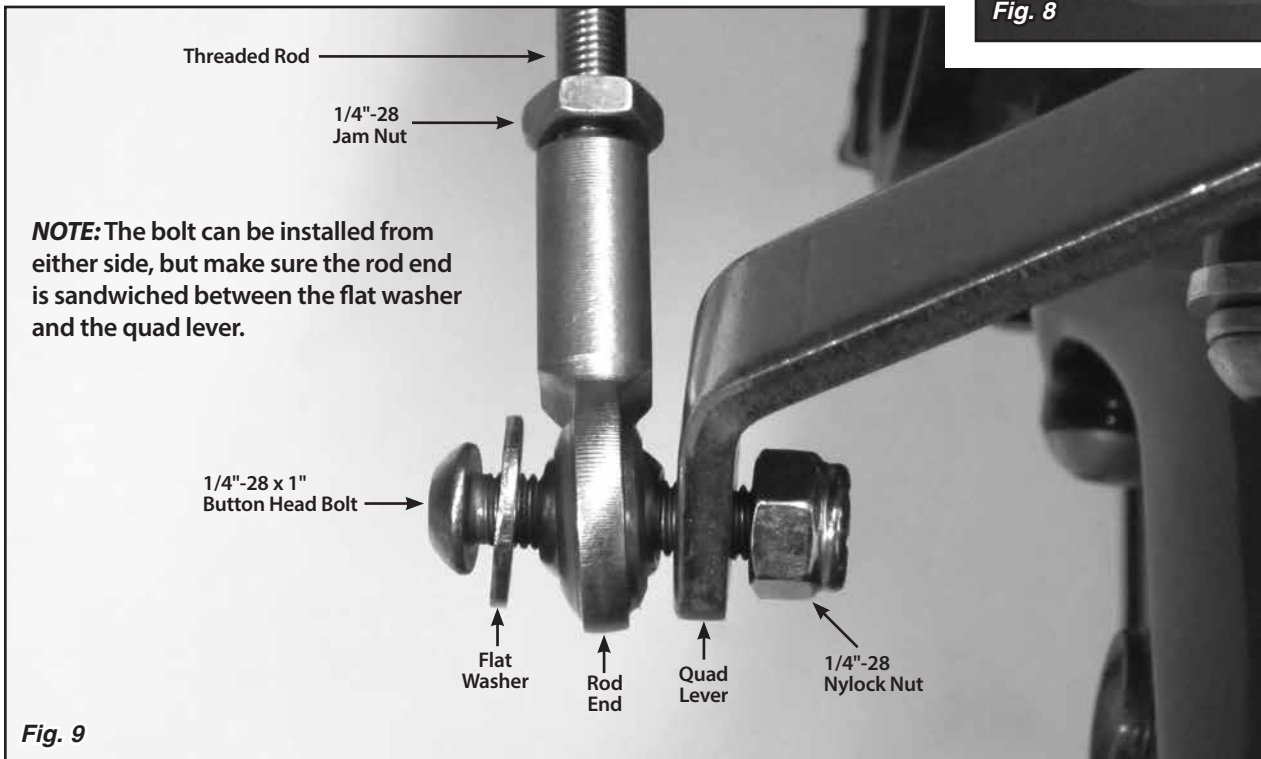

Fig. 9
**Step 14:** Verify that both 1/4"-28 jam nuts are on the threaded rod, and install a rod end onto each end of the threaded rod. Attach the threaded rod assembly to the **inside** of the trans gear lever and to the **outside** of the quad lever using the 1/4"-28 x 1" button head bolts, flat washers, and nylock nuts as shown in **Fig. 9** and **Fig. 10**. The button head bolts can be installed from either direction, but make sure each rod end is sandwiched between the flat washer and the trans gear lever or quad lever.